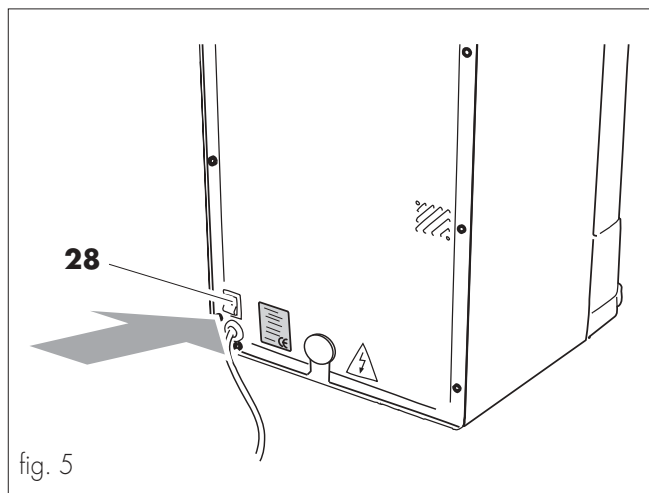

fig. 5
Interruptor general (ref. 28, fig. 5)